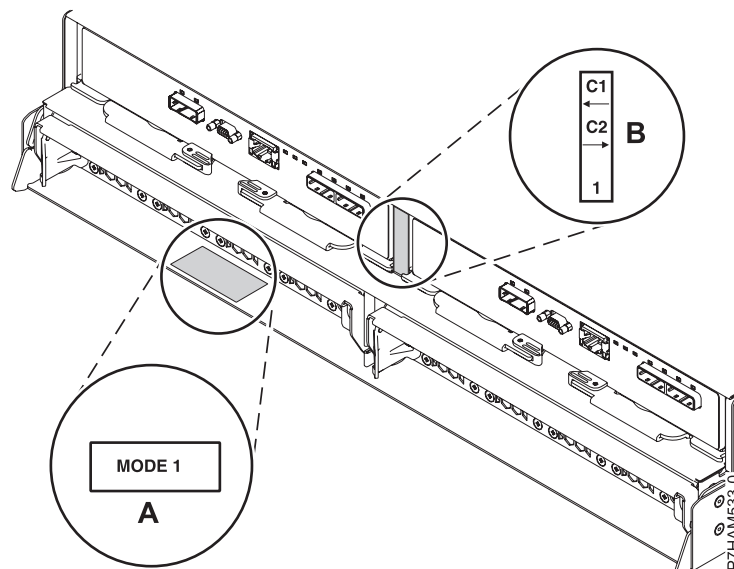

Figure 33. Mode sticker locations at the rear of the 5887 disk drive enclosure
2. Confirm the factory-set mode of the 58/87 disk drive enclosure by using information printed on stickers at the rear of the enclosure. Stickers are attached to the lower-left shelf of the chassis (A) and the center support between the enclosure services manager (ESM) modules (B). The stickers indicate whether the enclosure is set to mode 1, mode 2, or mode 4, as shown in Figure 33.